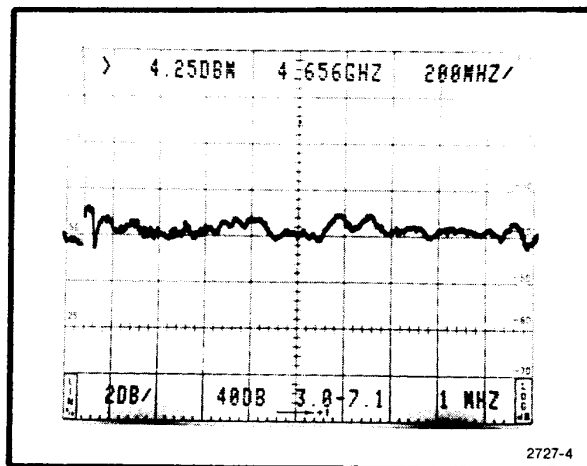

Fig. 3-6. Typical display showing frequency response from a sweeping signal source.
h. Set the sweep generator span so it sweeps from 0.01 to 2.2 GHz. Set the generator sweep mode for automatic internal sweep at its slowest sweep time (100 s). Monitor the power output as the generator sweeps across the span to ensure that the output remains constant. The frequency response (deviation from the mean) must not exceed  $\pm 1.5$  dB. A typical response for the frequency range of 3.6 to 5.6 GHz is shown in Fig. 3-6.
d. Slowly tune the frequency of the signal generator from 100 kHz to 10 MHz, monitoring the output to ensure it remains constant. Note the frequency response (amplitude deviation above and below the average). Frequency response or amplitude deviation must not exceed  $\pm 1.5$  dB. (See Fig. 3-6 for the average level.)
h. Check the frequency response as the sweep generator scans across the 10 MHz to 2 GHz span. Deviation must not exceed  $\pm 1.5$  dB. (See Fig. 3-6.)